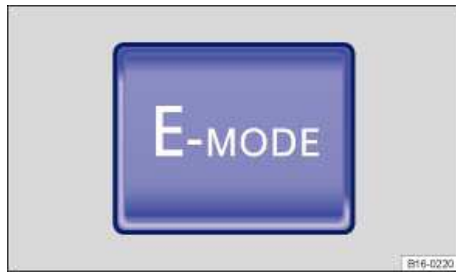

Fig. 123 In the lower center console:  $E_{MODE}$  button for extended electro-mode drive.
– Careful use of the E-MODE button ⇒ <a href="#">fig. 123</a> .	The high-voltage battery discharges quickly with the E-MODE button switched on. This can increase fuel consumption since driving in electric mode is preferred in this case, even though the combustion engine would be more efficient.
By pressing the E-MODE button ⇒ fig. 123, the driver can extend the normal limits of electrical motor drive so that the electric motor powers the vehicle whenever possible (given the battery charge level and the way you are driving). In this mode, the vehicle is propelled by the electric motor as much as possible.